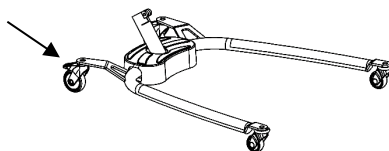

Fig. 1.6A
1. Coloque a base no solo e trave as rodas. (Fig. 1.6A)